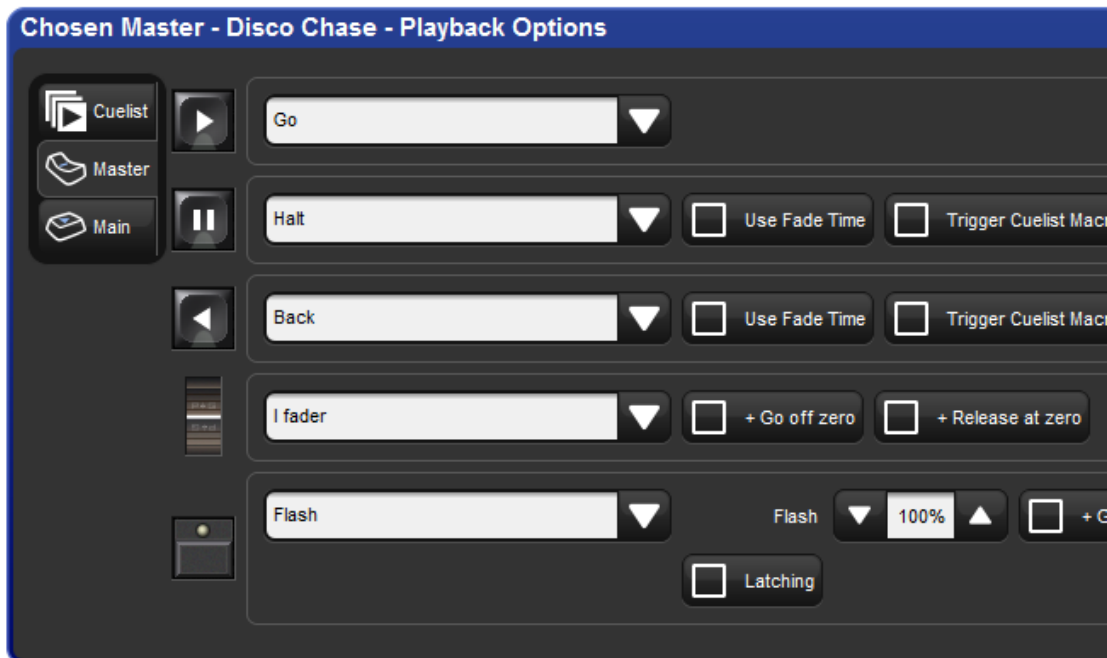
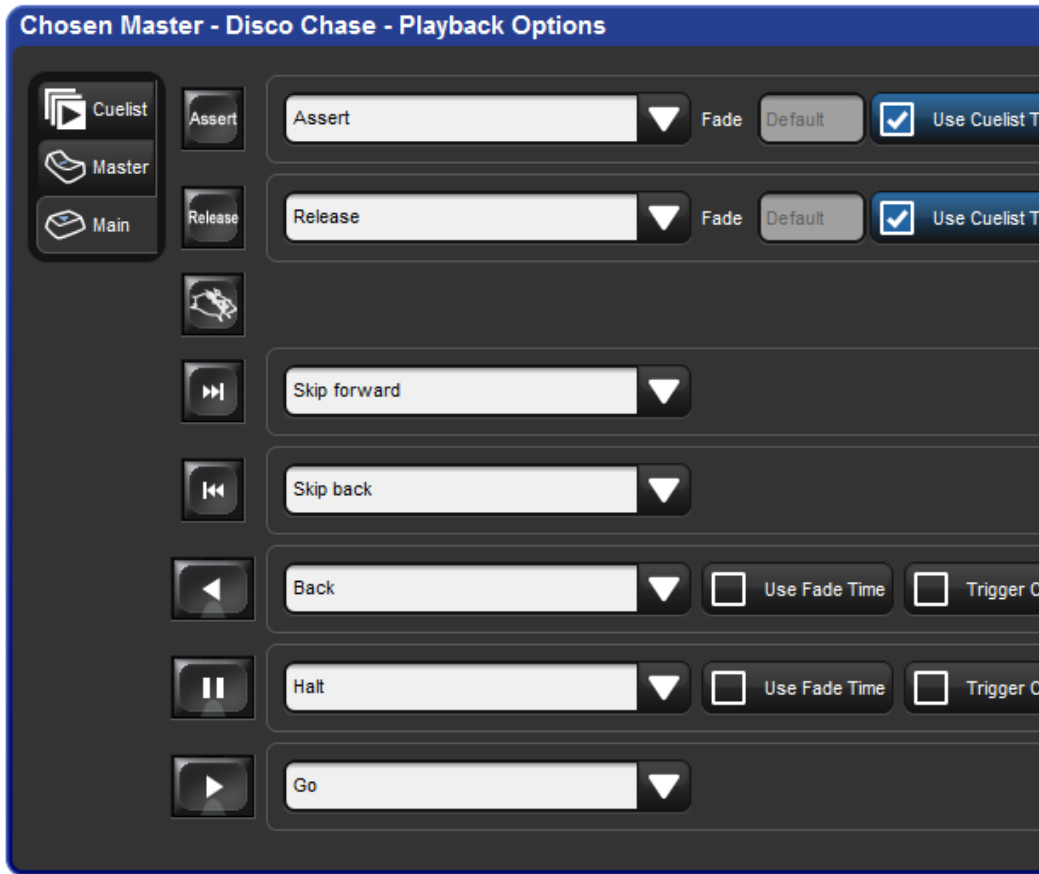

Figure 17.10. The Master pane of the Cuelist Options window
Figure 17.11. The Main Controls pane of the CueList Options window
3. Under Controls, select the Master or Main Controls pane; see *Figure 17.10*, “The Master pane of the Cuelist Options window” and *Figure 17.11*, “The Main Controls pane of the Cuelist Options window”.